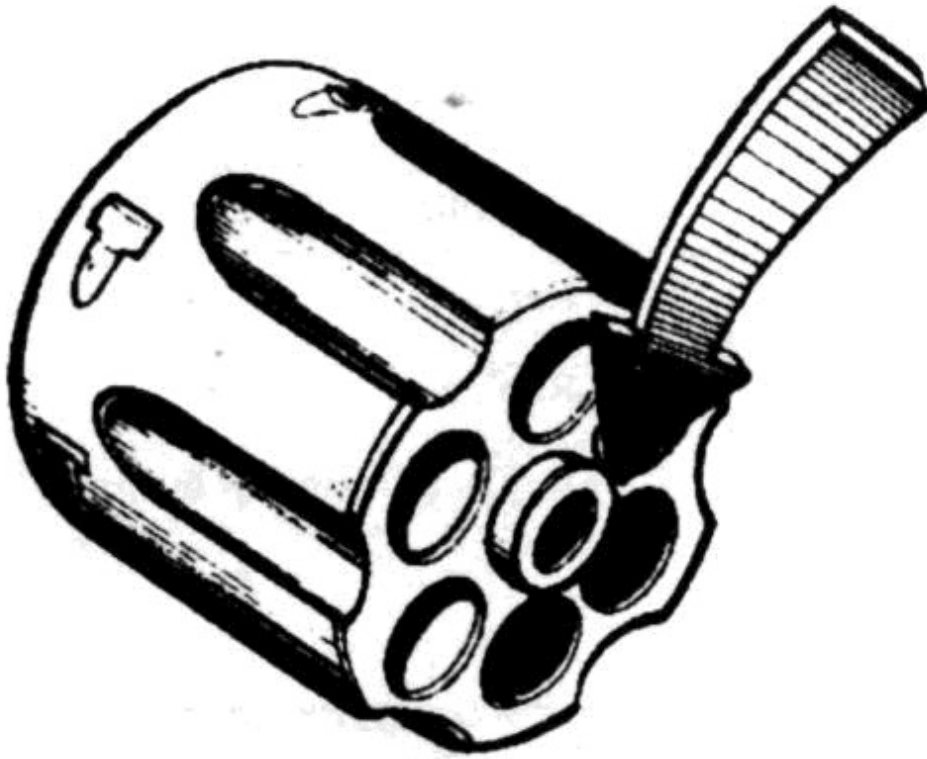

Figure 15-21:
*Cylinder, Ratchet and Ejector Rod:* Headspace for Colt Official Police revolvers should be between .060 and .065" Headspace must be checked with the cylinder pressed forward. Tight headspace may be corrected by reducing the length of the cylinder collar as shown in Fig. 15-21. Conversely, excessive headspace may be corrected by stretching the cylinder collar. However, many times on the older models, after this headspace correction has been made, there will be excessive end-to-end play in the cylinder. If this condition occurs, the ratchet must be replaced. Because of this, the headspace should always be corrected before fitting a new ratchet. If this new ratchet offers problems, such as difficulty in closing the cylinder, file the ratchet evenly until the cylinder closes freely with no end play. It is sometimes recommended to slightly peen-punch the ratchet and end of the ejector rod to keep them from coming loose.